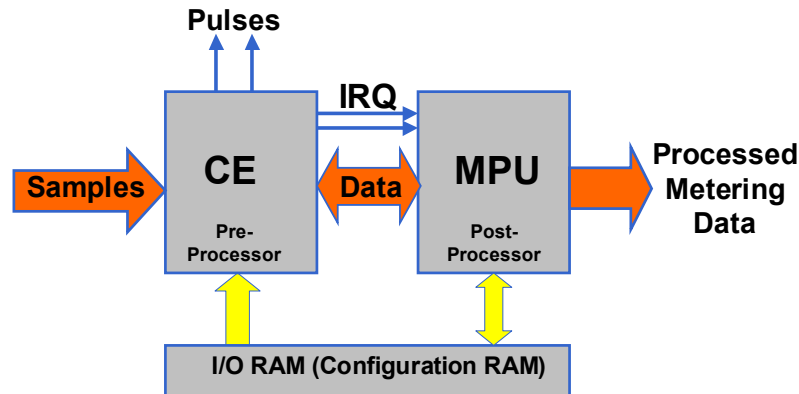

Figure 26: MPU/CE Data Flow
The data flow between CE and MPU is shown in Figure 26. In a typical application, the 32-bit compute engine (CE) sequentially processes the samples from the voltage inputs on pins IA, VA, IB, and VB, performing calculations to measure active power (Wh), reactive power (VARh), A2h, and V2h for four-quadrant metering. These measurements are then accessed by the MPU, processed further and output using the peripheral devices available to the MPU.